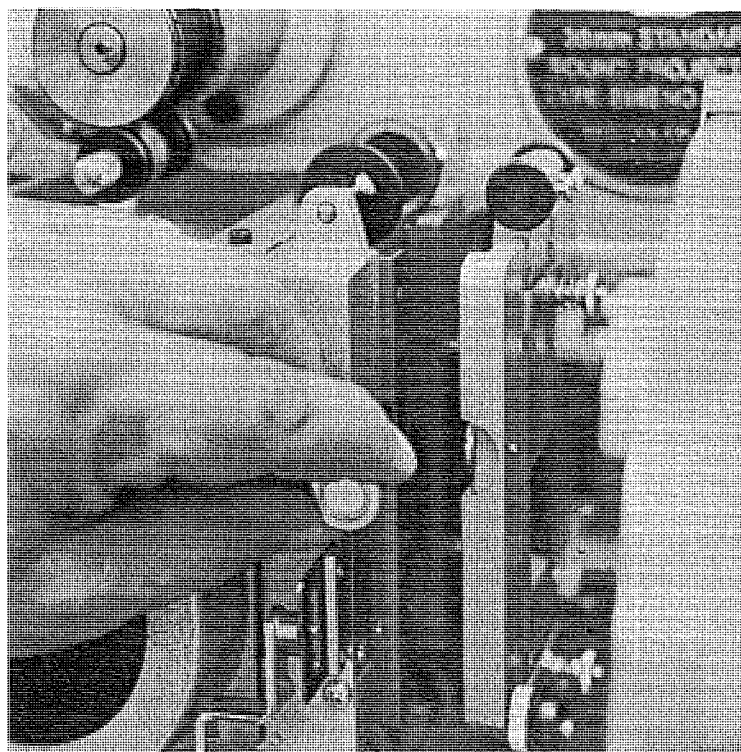
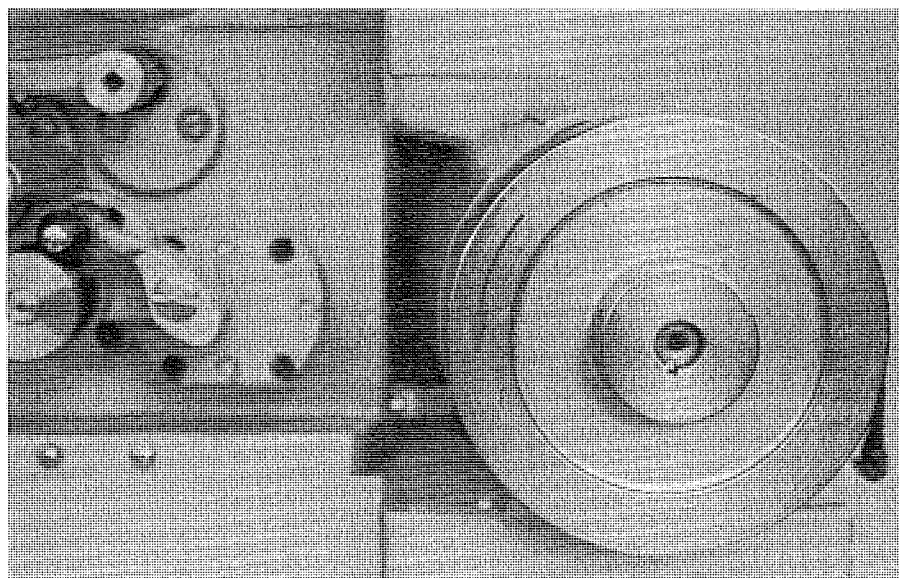

Fig. 5-1: Gate Release Knob
Fig. 5-2: Motor Hand Wheel
- 5.1.1 To thread the projector, place all sprocket pad roller arms in the open position and open the film gate by pulling the Gate Release Knob (TSR-B-25) (Fig. 5-1). While observing the intermittent sprocket, rotate the Motor Handwheel (TSR-R-5) (Fig. 5-2) in a counter-clockwise direction until the sprocket stops in its "rest" position. Unwind a suitable length of film from the supply reel or the platter transport and thread the film through the projector according to the Threading Diagram (Fig. 5-3). Be careful to provide the correct size film loops in between the various sprockets and rollers. As the film is threaded over each sprocket (with the exception of the intermittent sprocket) close the corresponding pad roller arm to secure the film.